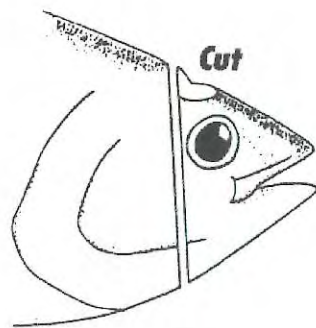

Figure 22. Saw straight down behind the eyes to remove the head.
Step 1 Remove the head by sawing straight down behind the eyes. (Figure 22.)